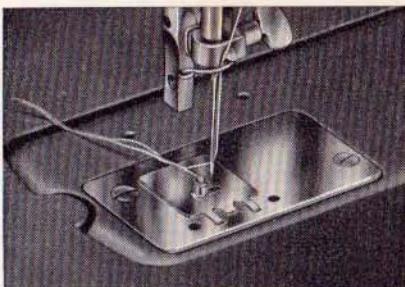

Fig. 48.
- b. Select eyelet embroidery cover plate with center stud matching the desired size of eyelet ($\frac{1}{8}$ ", $\frac{3}{16}$ " or $\frac{7}{32}$ " diameter, fig. 48) and place it on the needle plate.